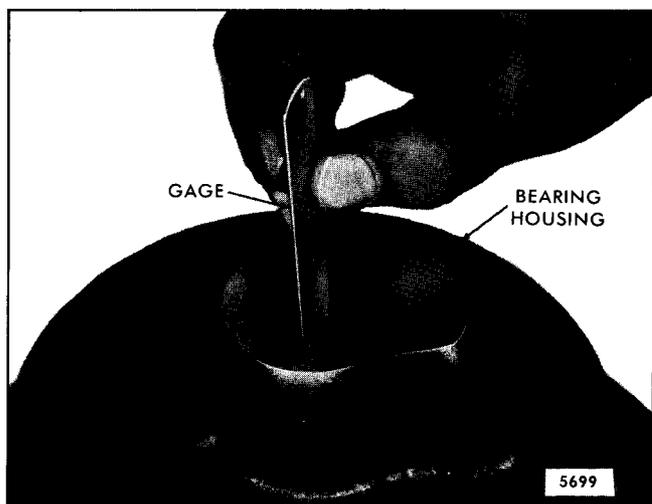

Fig. 11 - Checking Turbine Seal Ring Gap in Bearing Housing
- Install the turbine seal ring in its bore, inspect visually for full circle contact, and measure the ring gap with a feeler gage (Fig. 11). The gap range is .002" to .007". Replace if the ring fit is faulty.